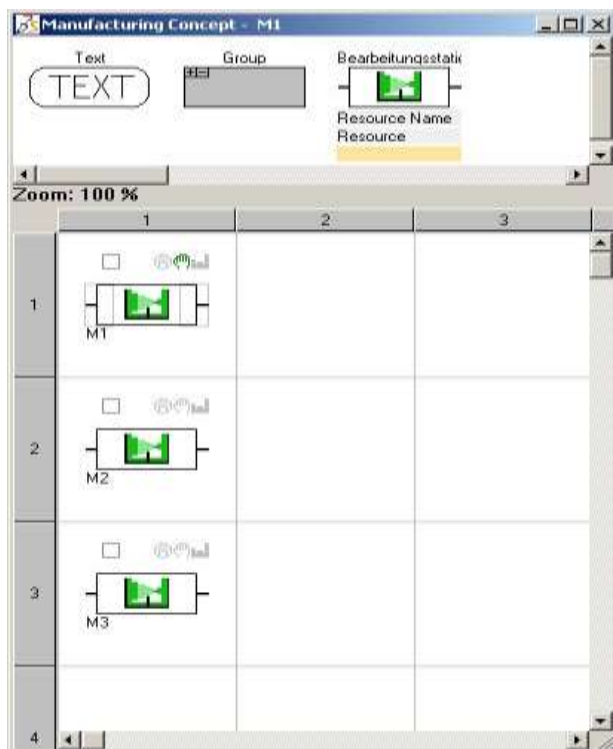

Figure 22: Manufacturing Concept of a Resource – three Integrated Resources
- 4) To open the Manufacturing Concept of a resource, you can either use the appropriate contextual menu or the icon above the new symbol. *Please refer to the Figure 22.*